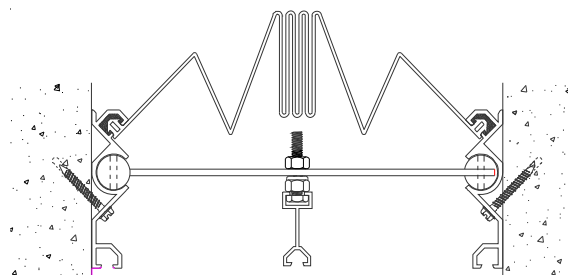

Figure 12
**STEP 20.** Insert the bolt through the centering bar, and attach the centering bar to the subchannel using one of the jamb nuts provided by the factory (see Figure 12). Ensure that the centering bar maintains the proper position. Repeat this procedure for each subsequent centering bar in this section of the joint cover system.